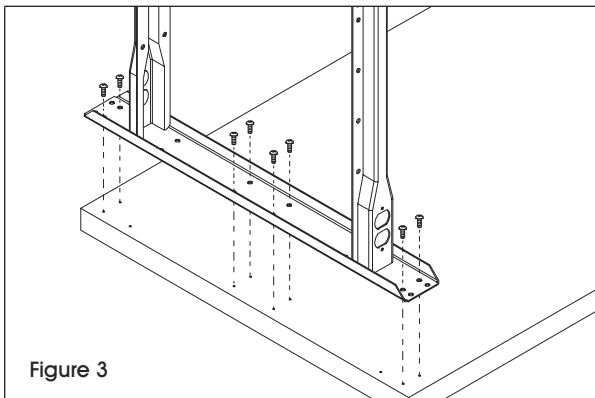

Figure 3
- Using 16 wood screws, attach legs to the underside of the top (5) through pre-drilled holes. (See Figure 3)